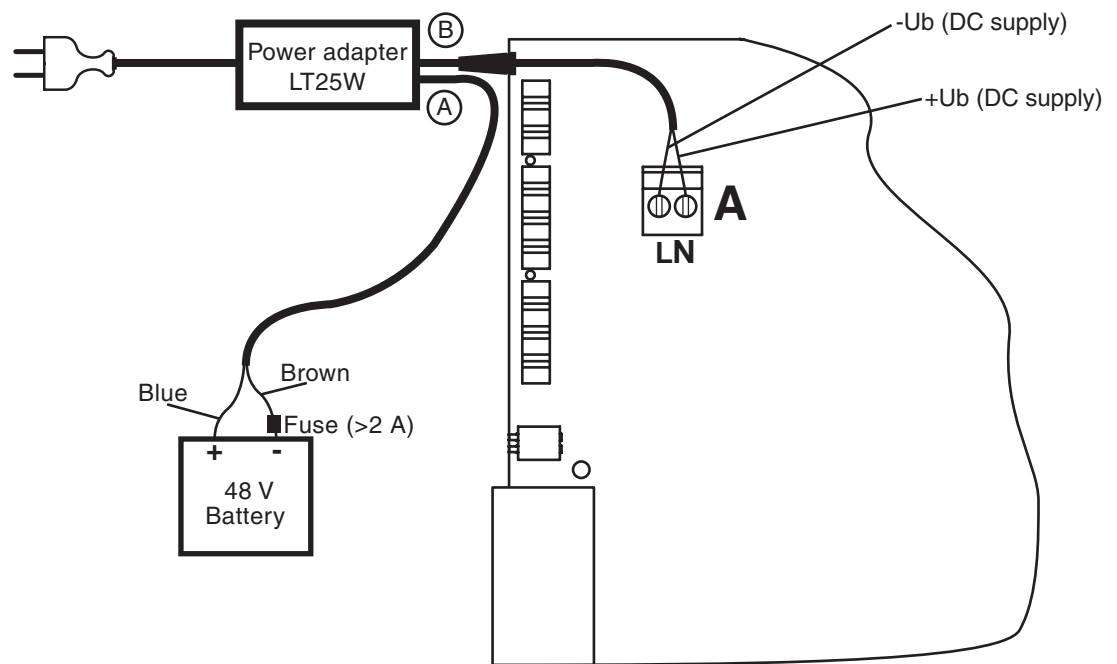

Fig. 2.191 Connecting desktop power adapter LT25W
6. Connect the desktop power adapter according to Fig. 2.191 (**Warning:** You must not bend the board)